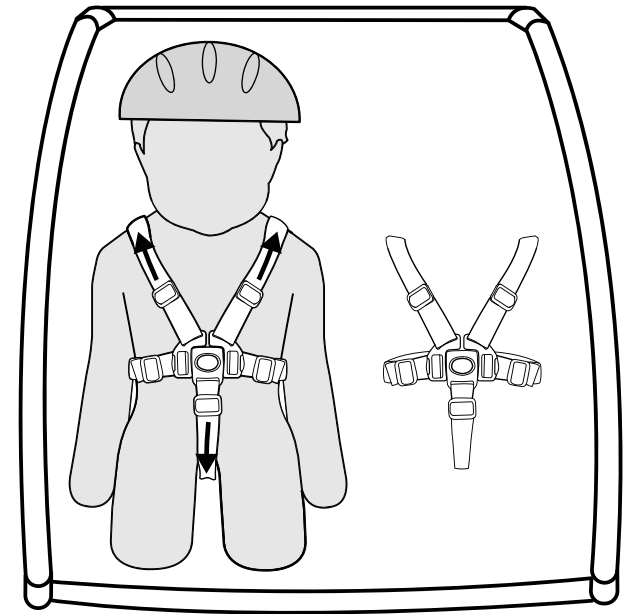

Figure 22
3. When using double trailer with one child, always seat the child in the right side position (Figure 22).